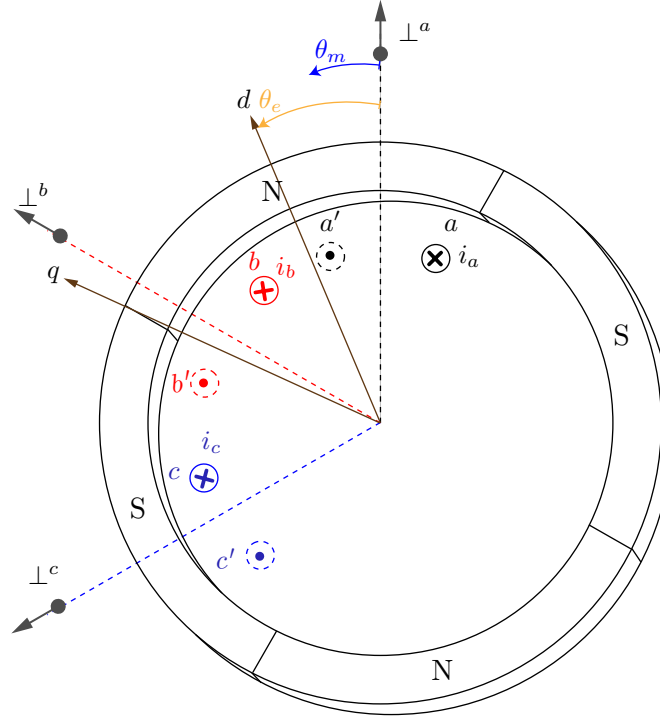

Figure 2: Magnetic ring with two pole pairs.
**Problem 2:** In this problem, we will study the details of a four pole machine ( $p=4$ ) as shown in Fig. 2. The stator windings corresponding to the three phases are separated by  $120^\circ$  electrical angles. We only show the windings for one complete electrical cycle (or half mechanical cycle) :  $0^\circ < \theta_m < 180^\circ$ . In a complete machine, similar set of winding is repeated for another cycle  $180^\circ < \theta_m < 360^\circ$ . The current directions shown in the winding is due to an externally applied voltage source that is not shown in the figure. The three phase currents are denoted as  $i_a, i_b, i_c$ . The inductance and resistance of each phase winding is  $L$  and  $R$  respectively. Consider  $\Phi_{pk}$  to be the peak flux and  $N$ , the number of turns of each coil per phase. In Fig. 2, we try to show only one such coil for each respective phase. Assume  $q$  axis leads  $d$  axis and all angles are measured with respect to  $\perp_a$  (as in class notation).
- Add the external voltage source  $v_a, v_b, v_c$ , and label its terminals correctly in Fig. 2 such that it matches the current directions labeled. A cross means current is going into the paper.
- Rewrite the previous set of equation in a rotating frame of reference as shown in Fig.2. From lecture notes you will follow that this happens when,  $\theta_d(t) = \theta_e(t)$ . Redraw the equivalent circuit in the dq reference frame and label the speed-dependent voltages,  $\mathcal{E}_d$  and  $\mathcal{E}_q$ .
- (f) In the Fig. 2 for a given  $\theta_e$ , where  $\theta_e = \theta_d$ , label the direction of following space phasors : (i) Speed-dependent voltage ( $\mathcal{E}$ ) (ii) Flux linkage due to permanent magnet ( $N\Phi_{pk}$ ).
- (i) Now add the coils for the a,b and c phases for  $180^\circ < \theta_m < 360^\circ$  and show the connection of those with the existing coils in Fig. 2 so that the back-emfs of these two coils add up. With these new coils, compare the power developed with the one you obtained in (d)